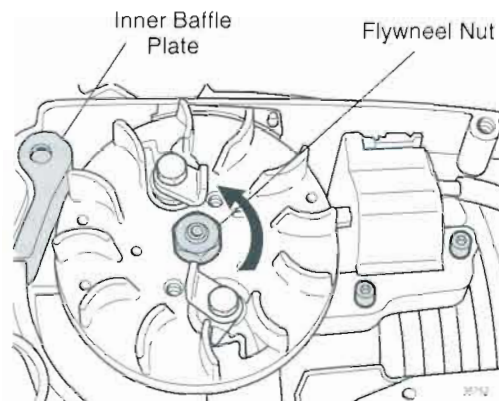

Figure 13.9 Removing the Flywheel Nut
STEP 1. Insert an appropriate piston stop in the spark plug hole, and then use a 14 mm wrench to remove the flywheel nut in a counter-clockwise rotation (Figure 13.9).